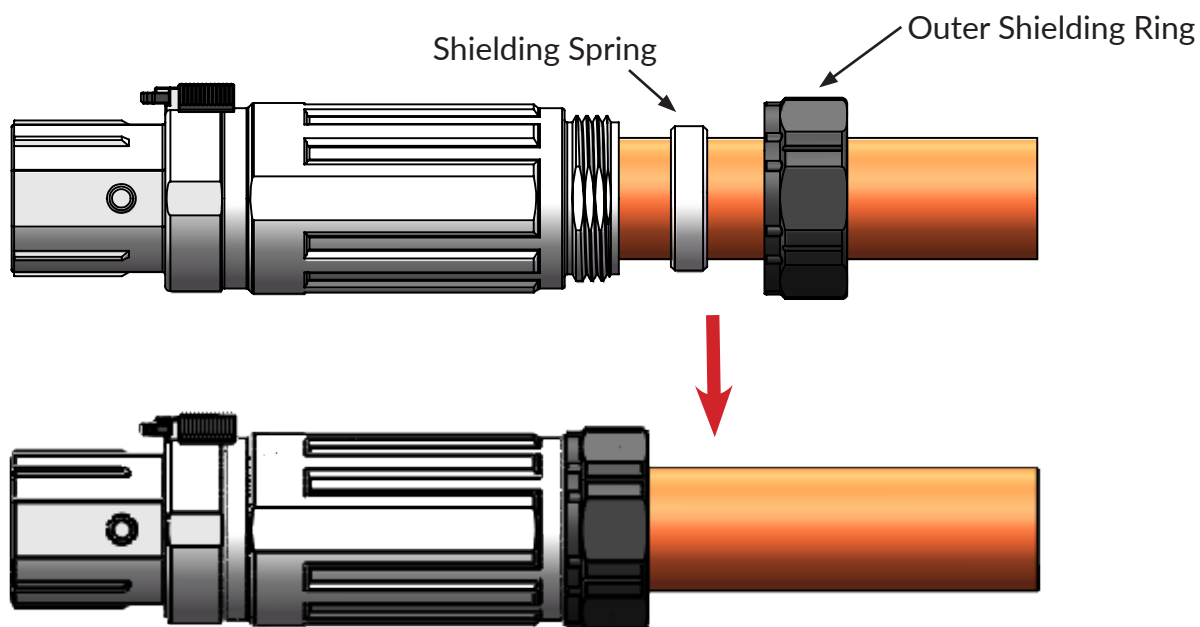

Figure 18
4) As figure 18 shown, tighten the hex nut to adapter shell with 37mm spanner, recommended torque is 6~8N.m, rubber sleeve applicable range see table 9;